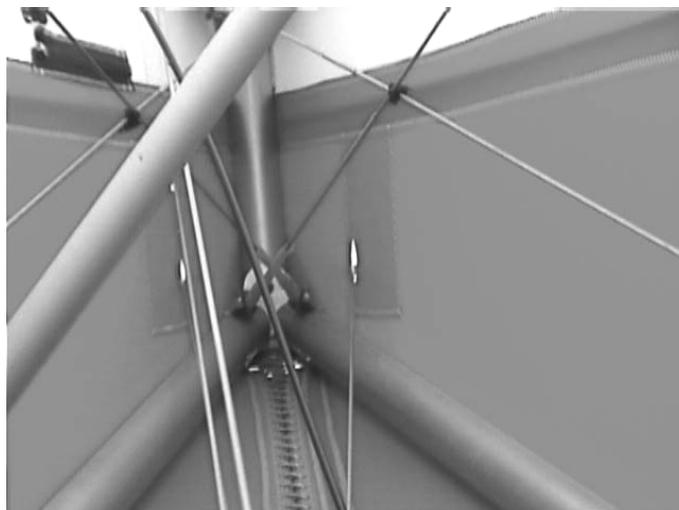

Figure 89; crossed cables and cable ties.
- i) Check the positions of the plastic anti-chafe sleeves (made of slit fuel tubing if none are already fitted), where the cables cross and optionally where the cables pass the bracing frame, and secure with a small cable tie, Figure 89.